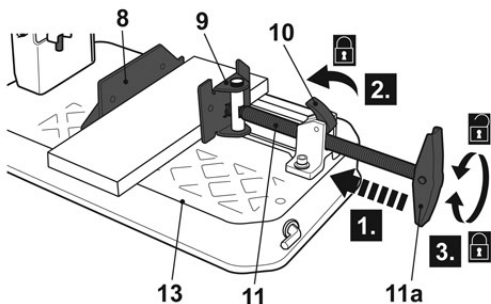

Fig. 8
- > Place the workpiece onto the cutting table (13) between the fence (9) and mitre gauge (8).
- > Slide the vice (11) forward until the mitre gauge (8) lies against the workpiece edge (Fig. 8, step 1).
- > Engage the unlocking lever (10) (Fig. 8, step 2).
- > Turn the handle (11a) clockwise to clamp the workpiece securely (Fig. 8, step 3).